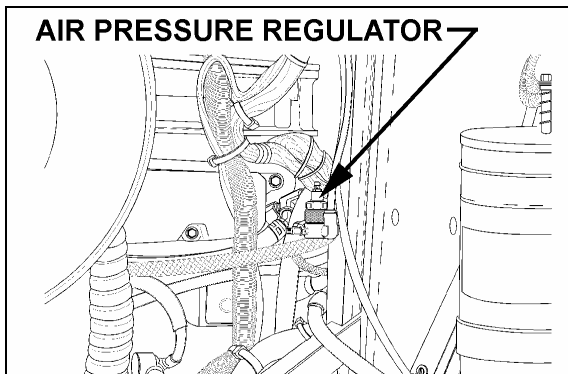

FIGURE 21: AIR PRESSURE REGULATOR 07037
17. Adjust the servo clutch pressure to 40 psi with the air pressure regulator. For more information, refer to Section 12, "BRAKE AND AIR SYSTEM", under heading "AIR PRESSURE REGULATOR". The regulator is located at back of engine compartment, on R.H. side (Fig. 21).
15. Adjust the servo clutch pressure to 40 psi with the air pressure regulator. For more information, refer to Section 12, "BRAKE AND AIR SYSTEM", under heading "AIR PRESSURE REGULATOR". The regulator is located at back of engine compartment, on R.H. side (Fig. 21).
21. Adjust the retarder pressure to 80 ± 3 psi with the air pressure regulator. For more information refer to Section 12, "BRAKE AND AIR SYSTEM", under heading "AIR PRESSURE REGULATOR". The air pressure regulator is located at back of engine compartment, on R.H. side (Fig. 21).